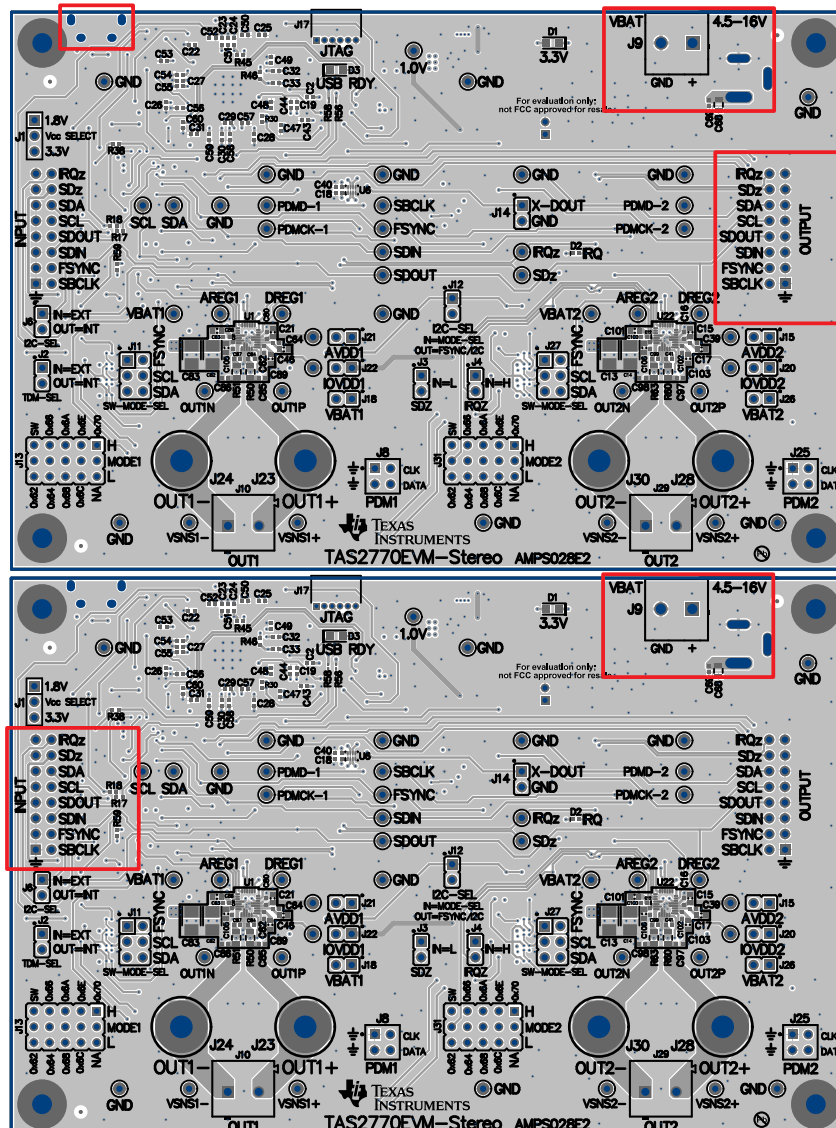

图 7. Multichannel Setup
2. Connect up to four TAS2770EVM-STEREOs together using connectors J5 and J7 (see 图 7).
4. The left-most board must have jumpers set to match the stereo configuration. On all other boards, insert a jumper on J2 and J6 (see 图 7 for details).